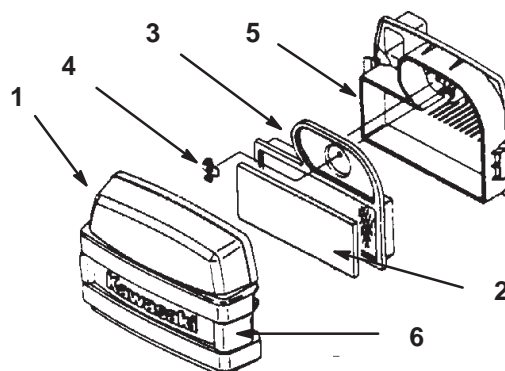

Figure 35
2. Clean around the air cleaner to prevent dirt from getting into the engine and causing damage. Unlatch two side latches and remove the air cleaner cover (Fig. 35).
3. Carefully remove the foam element from the paper element (Fig. 35).
4. Unscrew the wing nut and remove the paper element (Fig. 35).